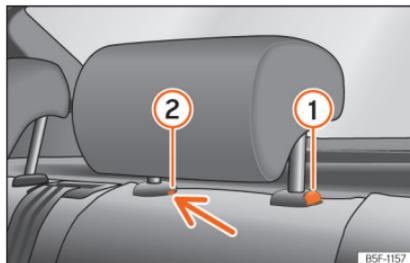

Fig. 115 Rear headrest: removal.
- Press button »» Fig. 115 ①, while simultaneously pressing on the security hole ② with a flat screwdriver a maximum of 5 mm wide, and remove the headrest.